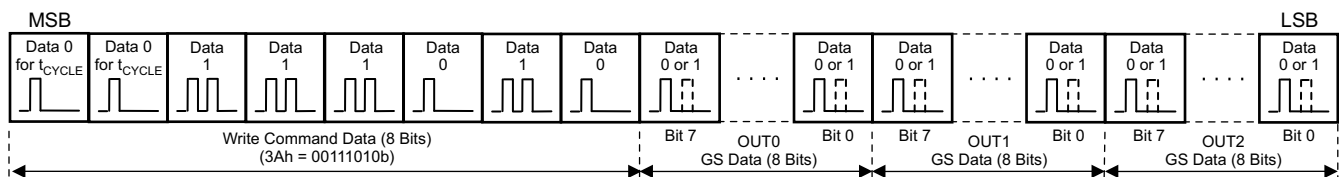
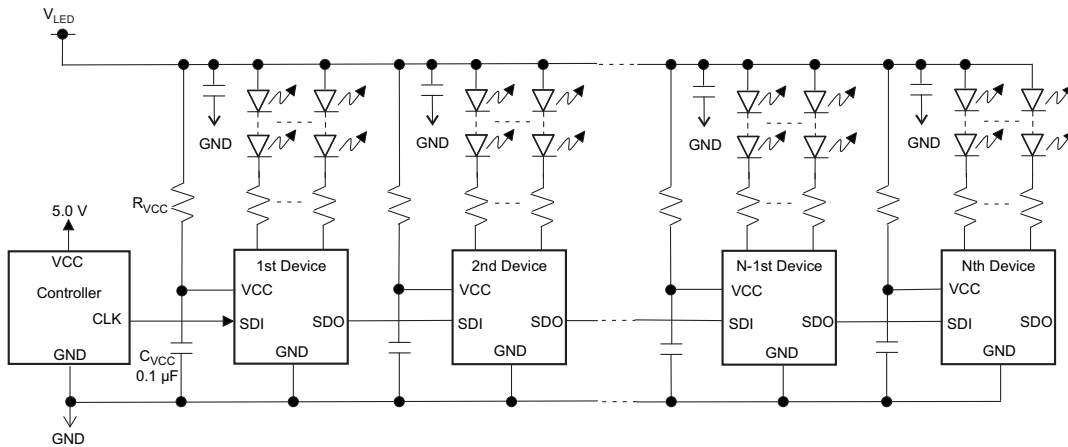

Figure 17. 32-Bit Data Packet Configuration for One TLC59731
Figure 18. Cascade Connection of N TLC59731 Units (Internal Shunt Regulator Mode)
The 8-bit write command and 24-bit grayscale (GS) data for OUT0 to OUT2 (for a total of 32 bits of data) must be written to the device. Figure 17 shows the 32-bit data packet configuration. When multiple devices are cascaded (see Figure 18),  $N$  times the packet must be written into each TLC59731 in order to control all devices. There is no limit on how many devices can be cascaded, as long as proper VCC voltage is supplied. The packet for all devices must be written again whenever any GS data changes.